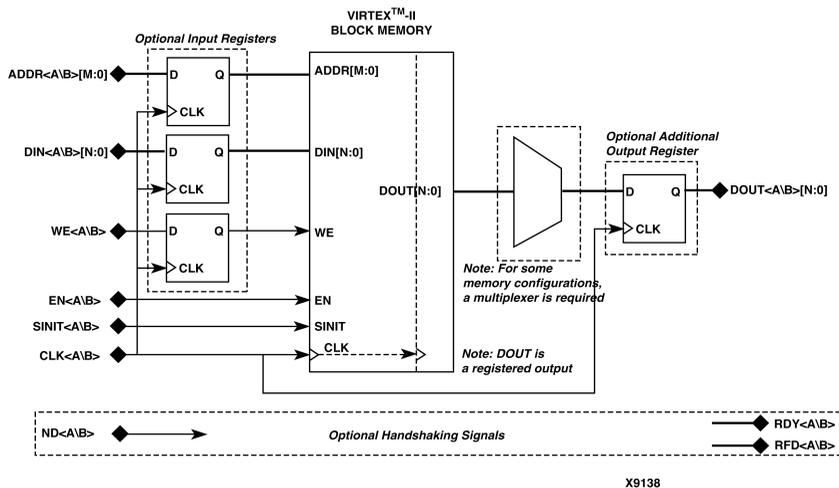

Figure 4: Dual-Port Memory Block Diagram
- **Register Inputs:** Check this box to register ports DIN, ADDR, and WE prior to accessing block memory. See Figure 4.
- **Additional Output Pipe Stages:** Select "1" to enable an additional register on the output of the memory; select "0" to disable an additional register on the output of the memory. See Figure 4.